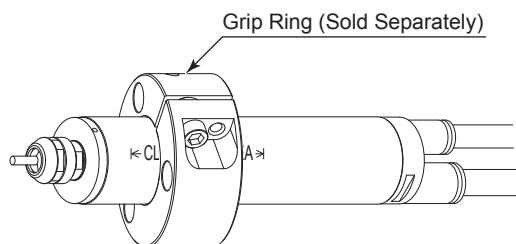

Fig. 10
\* When installing the Air Motor Spindle, it is recommended to use a " GR - 30 Grip Ring (sold separately (Fig. 10)) ". If the GR - 30 Grip Ring cannot be used due to the restriction of dimension and space, install as shown in ② below.